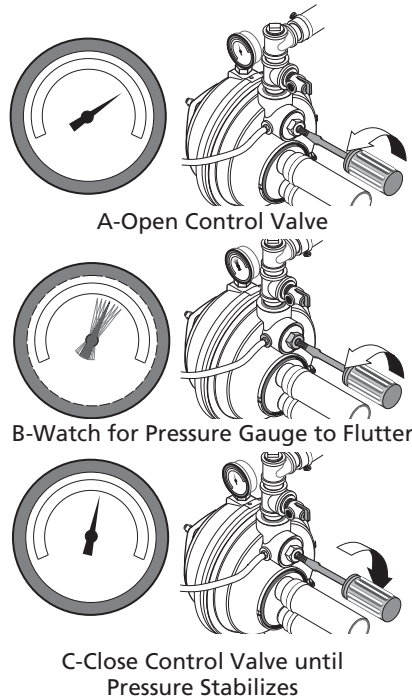

Figure 17 – Set Control Valve
5. When pressure has built up and stabilized at about 50 psi, slowly open the control valve (See Figure 17) and let the pressure drop until the pressure gauge needle starts to flutter. When the needle flutters, close the valve just enough to stop the flutter (See Figure 17). Your pump is now operating at its most efficient point.